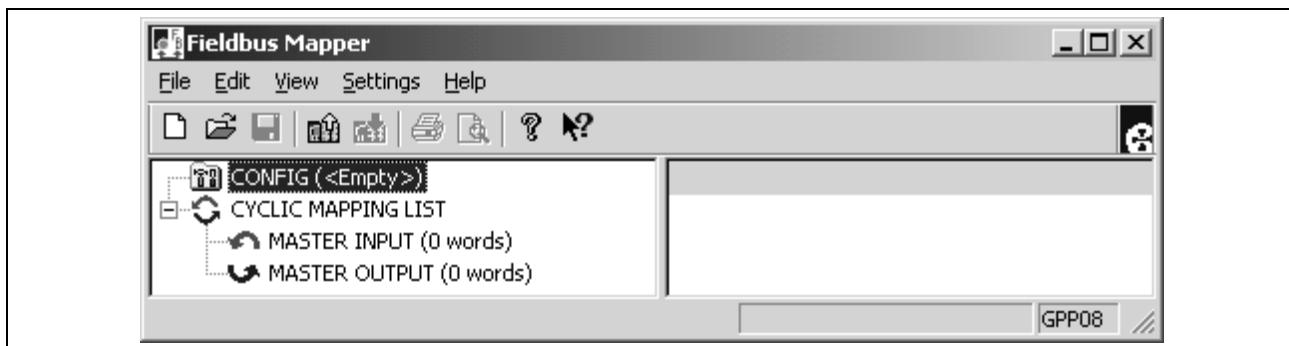

Fig. 8-5: Fieldbus Mapper Main Screen (Blank)
2. Select **Commission⇒Fieldbus Mapper**. The main Fieldbus Mapper screen appears (refer to Fig. 8-5).